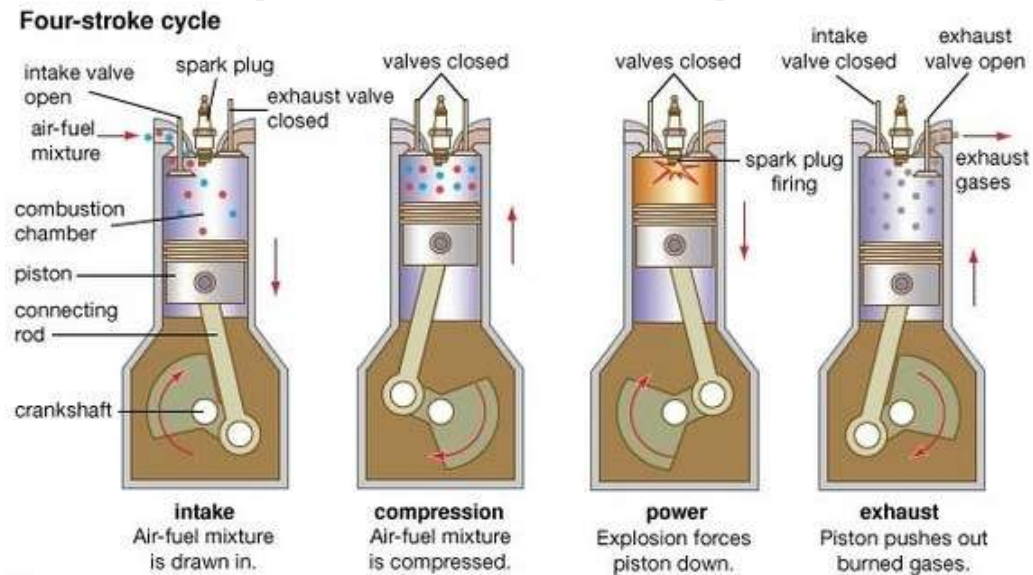

Fig. 3. Working of four stroke cycle engine
2.5.1 Working of four stroke cycle engine In four stroke cycle engine, all the events taking place inside the engine cylinder are completed in four strokes of the piston i.e., suction, compression, power and exhaust stroke (Fig.3). This engine has got valves for controlling the inlet of charge and outlet of exhaust gases. In two stroke cycle engine, all the events take place in two strokes of the piston. The four strokes of the piston are as follows: